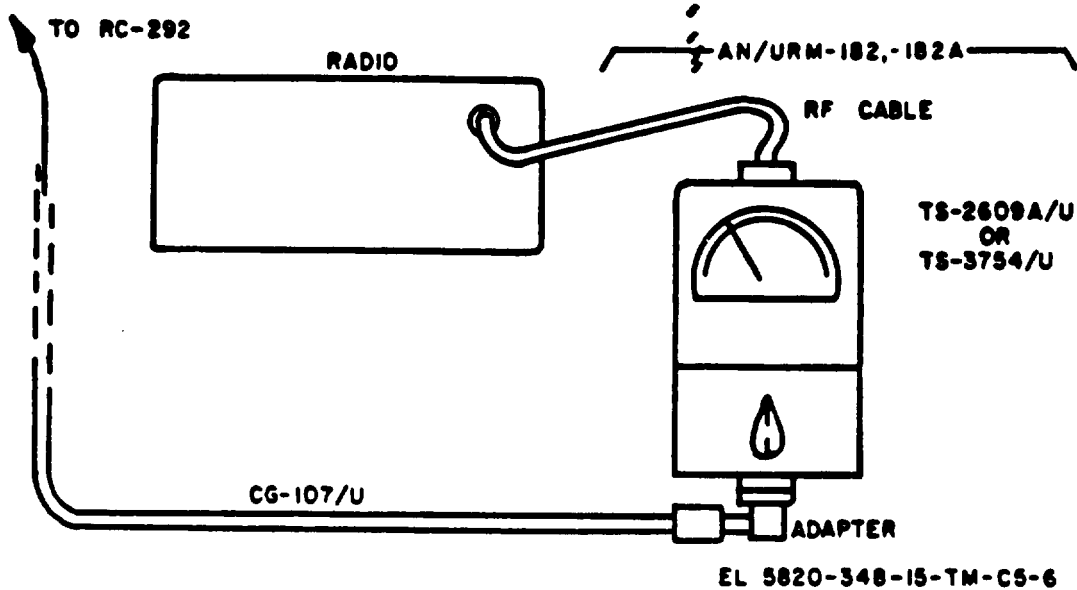

Figure 2-13. Test setup for radio and RC-292 with AN/URM-182 or AN/URM-182A.
2-13. Checking Installed RC-292 Using Test Set, RF Power AN/URM-182 or AN/URM-182A (fig. 2-13)
- a. Connect the AN/URM-182 or AN/URM-182A as shown in figure 2-13.